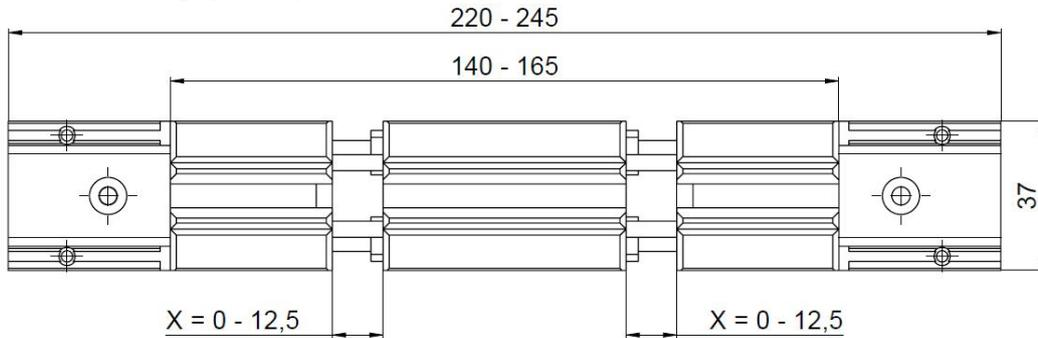
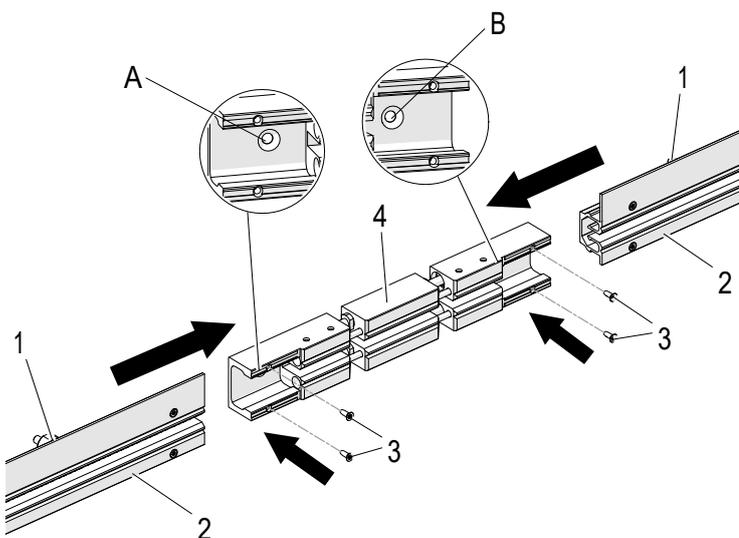
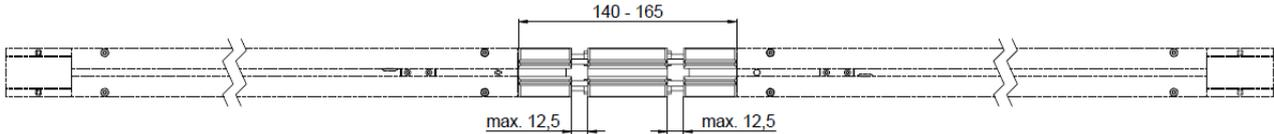
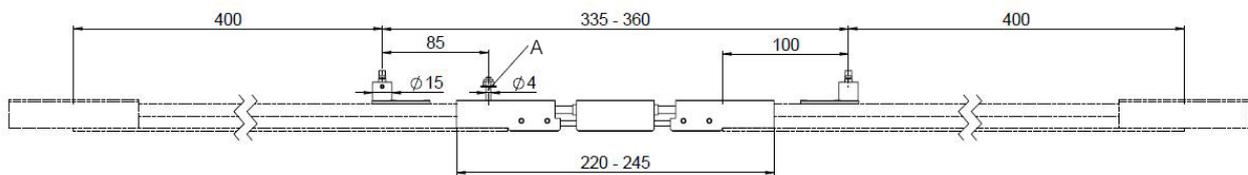

Fig. 54: Air gap in expansion unit
Fig. 71: Mount expansion unit (1)
Fig. 72: Line feed without positioning strip
Fig. 73: Line feed without positioning strip; A = anchor point
- The position in the expansion unit where the anchor point screws are to be placed must be determined (A or B) (see Fig. 71) (see System Layout)
- To fasten the expansion unit (4) using the anchor point screws, a through hole (D = 6 mm) must be drilled through the support structure.
- The position of the through hole can be derived from Fig. 73 and Fig. 54.
- Mount the anchor point screw (A or B) (screw type: M4 DIN 7991, hexagon socket SW 2.5 – steel 8.8, nut M4 (SW 7)) on the right or left of the expansion unit (4) with a tightening torque of 3.0 Nm (see Fig. 71).
- Slide the rail ends (2) with the line feed segment (1) (right and left) onto the expansion unit (4) (see Fig. 71).
- Tighten the 4 self-tapping screws M3 x 8 (tightening torque: 2.0 Nm, screw type: Hexagon socket (TorxPlus) TP10) (3) (see Fig. 71). These screws must be tightened (mechanically) using a torque shut-off screwdriver.
System with positioning strip (take dimensions from Fig. 72 to Fig. 73)